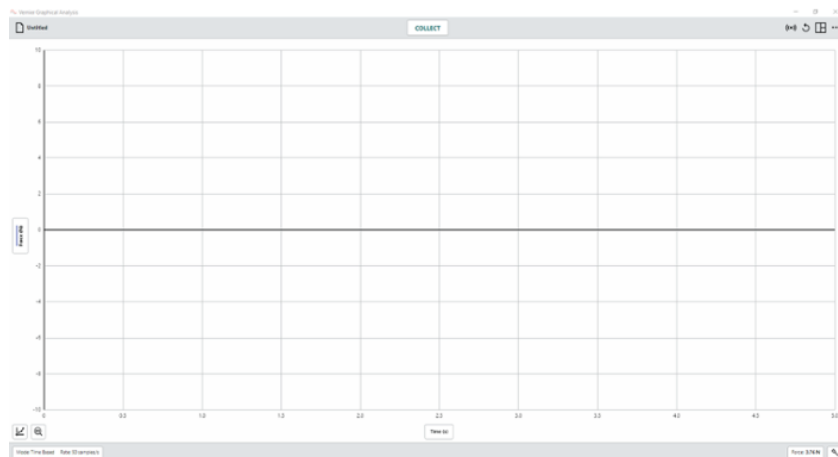

Figure 10. Graphical Analysis Window with Go Direct Force and Acceleration Sensor Connected
- i. With the Go Direct Force and Acceleration Sensor connected to GA4, you should have a graph displayed ready to collect data, as shown in Figure 10.